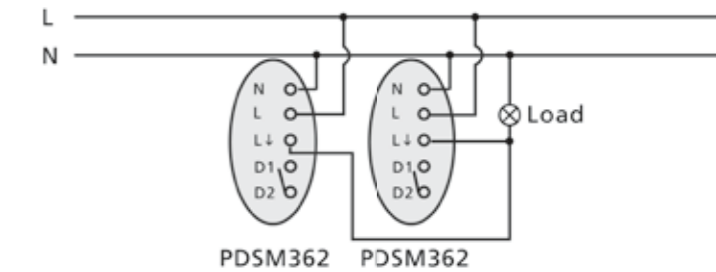

Fig. 4
3.2.2 Lighting is controlled by two PDSM362's to enlarge detection range (see Fig. 4).